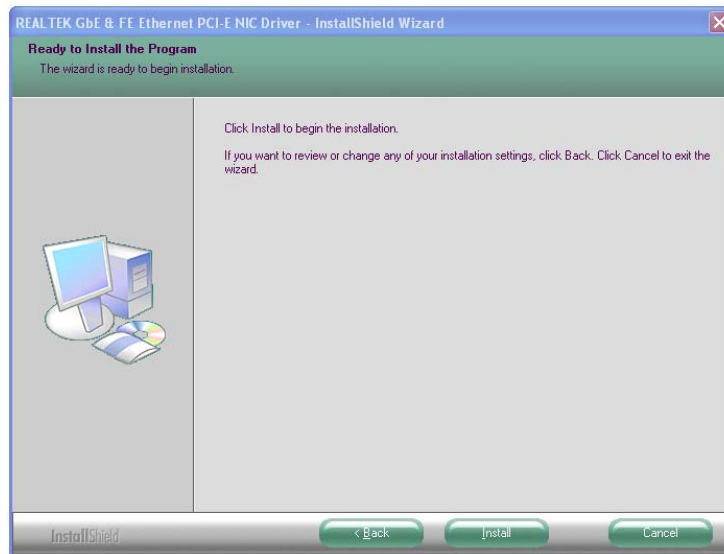

Figure 5-16: LAN Driver Ready to Install Screen
Step 6: The **Ready to Install the Program** Screen in **Figure 5-16** appears.